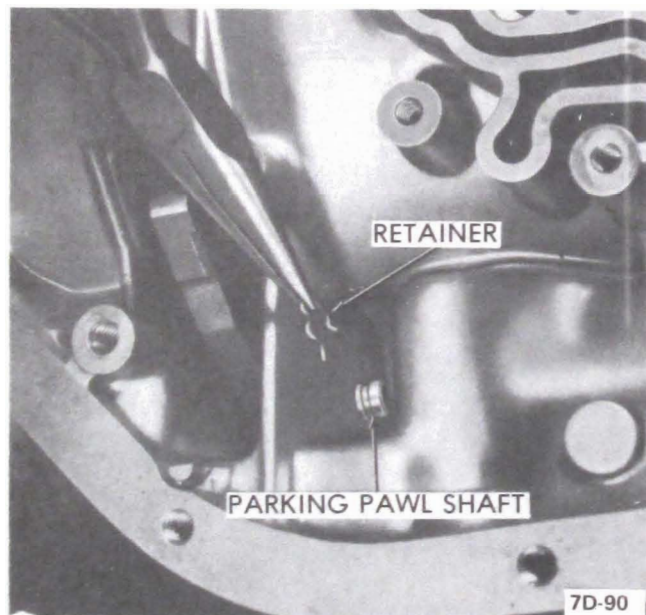

Figure 7D-191
3. Install cup plug and drive into case, using a 3/8" dia. rod, until parking pawl shaft bottoms on case rib. See Figure 7D-192.